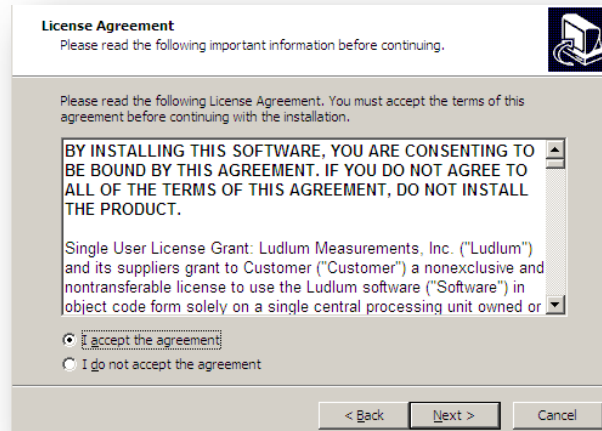

Figure 54 – Model 375 Web Page and Supervisor Service Installation (License Agreement)
2. If the following window (Figure 54) appears, download and install Microsoft Windows Installer 4.5 . Restart the computer if necessary. If the window does not appear, skip to step 3.